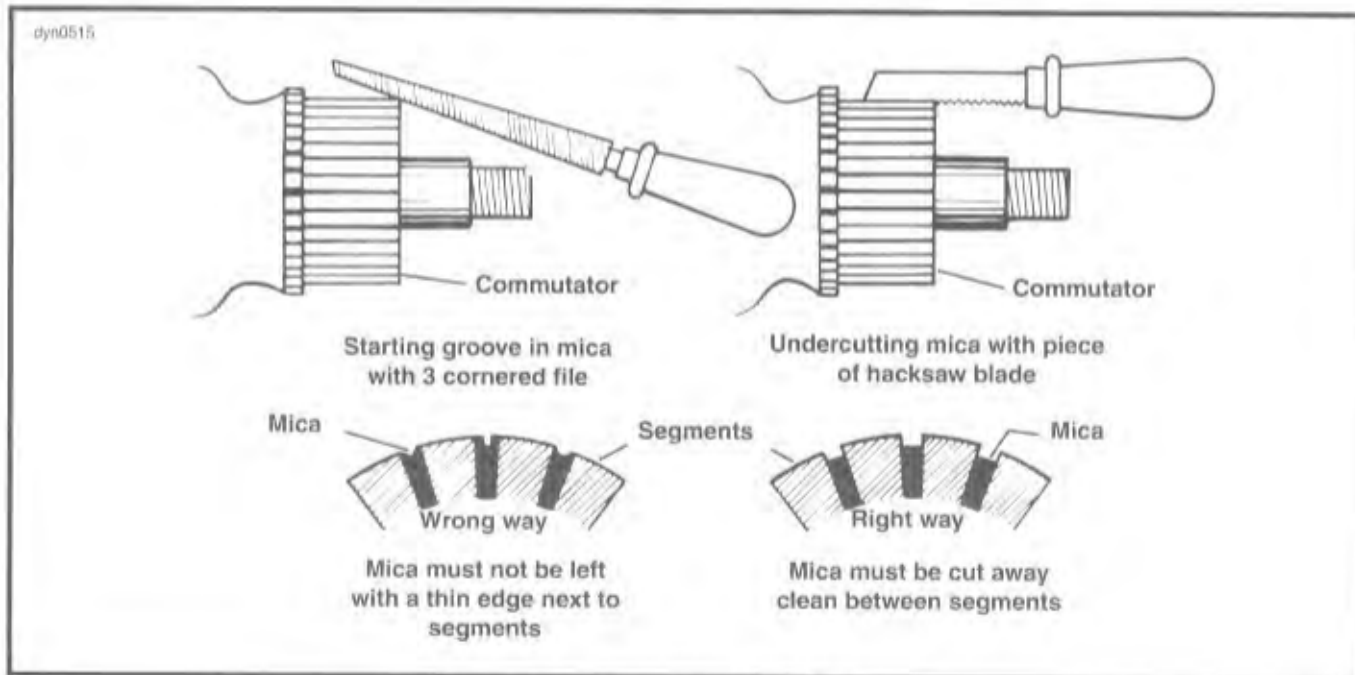

Figure 5-13. Undercutting Mica Separators
8. Check depth of mica on commutator. If undercut is less than 0.008 in. (0.20 mm), use an undercutting machine to undercut the mica to 1/32 in. (0.79 mm) deep. The slots should then be cleaned to remove any dirt or copper dust. See Figure 5-13. If an undercutting machine is not available, undercutting can be done satisfactorily using a thin hacksaw blade. After undercutting, lightly sand the commutator with crocus cloth to remove any burrs.